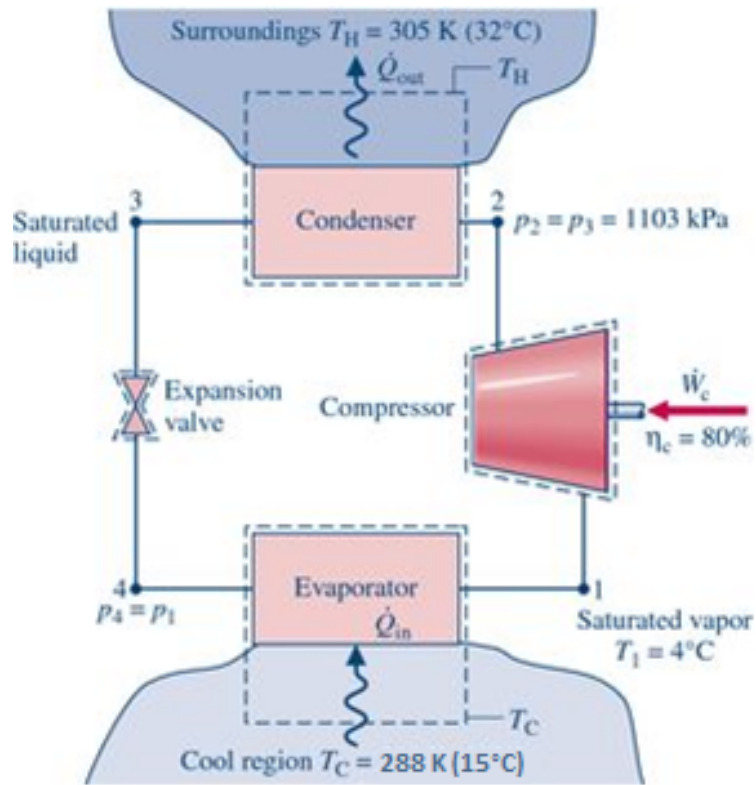

Figure 1: Schematics of the refrigeration cycle.
1. Consider an air conditioning system using refrigerant 134a as working fluid, operating at steady state, shown in Figure 1. The system cools the cold side down to $T_C = 15^\circ\text{C}$. Heat is rejected at $T_H = T_0 = 32^\circ\text{C}$ to the surroundings. Refrigerant 134a enters the compressor as saturated vapor at a temperature of $T_1 = 4^\circ\text{C}$ and is compressed adiabatically to a pressure of $p_2 = 1103\text{ kPa}$. The isentropic efficiency of the compressor is 80%. At the condenser exit, the refrigerant is saturated liquid. The refrigerant mass flow is given as 0.07 kg/s . Neglect kinetic and potential energy changes, assume that condenser and evaporator operate at constant pressure, and the expansion valve is isenthalpic.